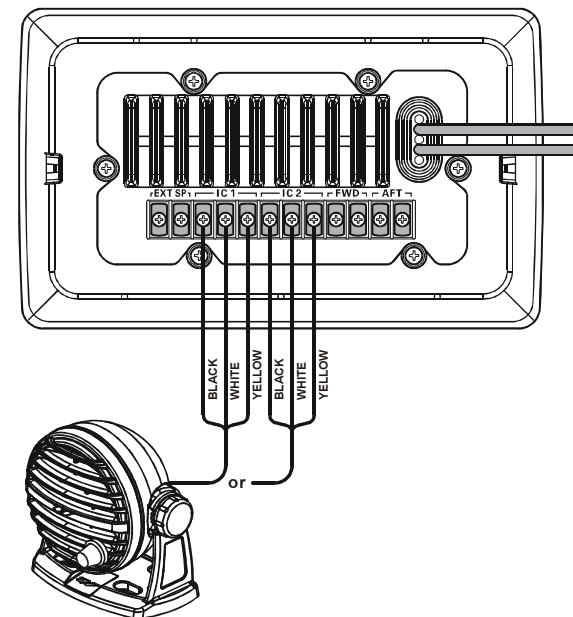

Figure 3
7. Route and secure the connection cable from the **MLS-300i** to the **VLH-3000** Loud Hailer. Connect the WHITE wire of the connection cable to the "positive (+) intercom speaker output," the shield of the connection cable to the "negative (-) intercom speaker," and the YELLOW wire of the connection cable to the "push to alert" terminal (Figure 3).
7. Route and secure the connection cable from the **MLS-300i** to the **VLH-3000** Loud Hailer. Connect the WHITE wire of the connection cable to the “positive (+) intercom speaker output,” the shield of the connection cable to the “negative (-) intercom speaker,” and the YELLOW wire of the connection cable to the “push to alert” terminal (Figure 3).